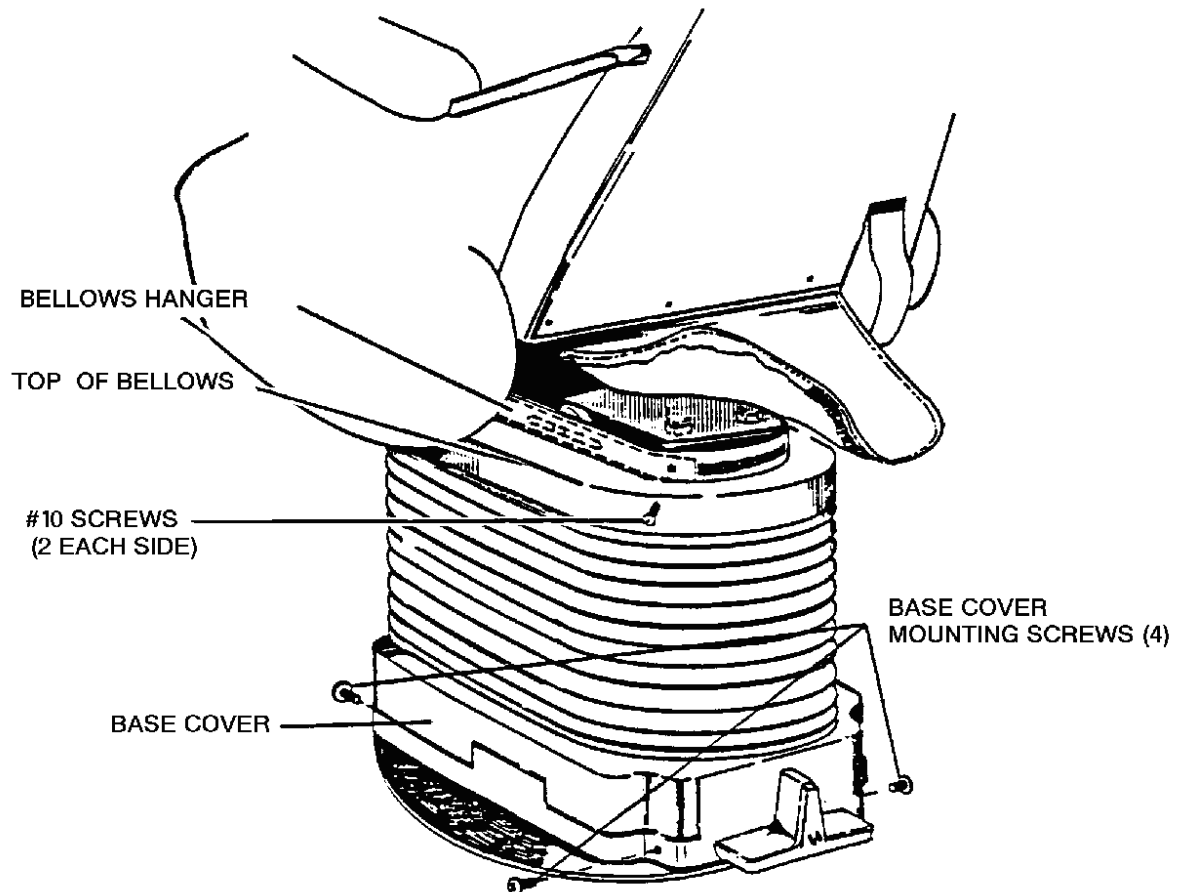

Figure 3-2. View of bellows with chair raised.
- a. **Chair Is in "UP" Position.** Refer to figure 3-2.
(3) Disconnect the external power source and disconnect the chair power cord from the receptacle in the lift.
(4) Remove the four nuts, lock washers, and the mounting screws that secure the chair to the lift. Remove the chair.
(5) Remove the four mounting screws that secure the base cover. Refer to figure 3-2.
(6) Loosen the nut that secures the rotation lock pedal.
(7) Lift the main cover off over the top of the lift.
(13) Check the lift to ensure that it is blocked to its highest position. Make adjustments as required.
(14) Engage the chain drive upon the sprockets and replace the three mounting screws. Pull the motor to tighten the drive chain while tightening the mounting screws. Refer to figure 3-2.
(15) Remove the wood block from the pantograph arms.
(25) Run the lift one-half way down and secure the bellows cover to the bellows hanger with the screws removed in step (1). Refer to figure 3-2.